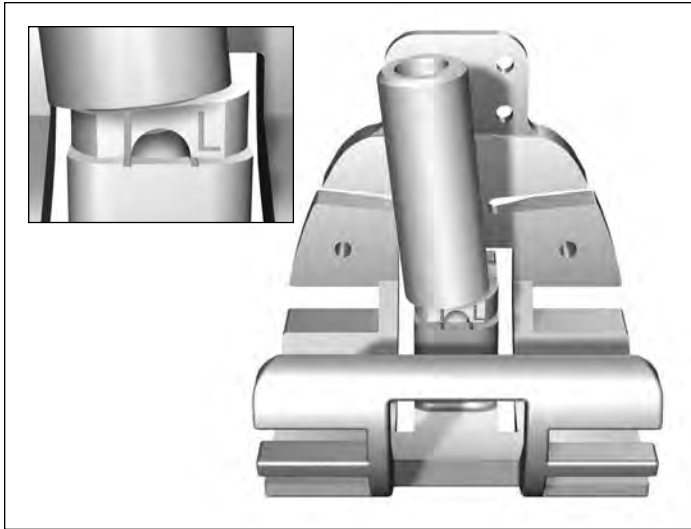

Figure 55
- The R or L must be visible once the TCG is assembled to verify the side used (Figure 55).
Repeat of Figure 55